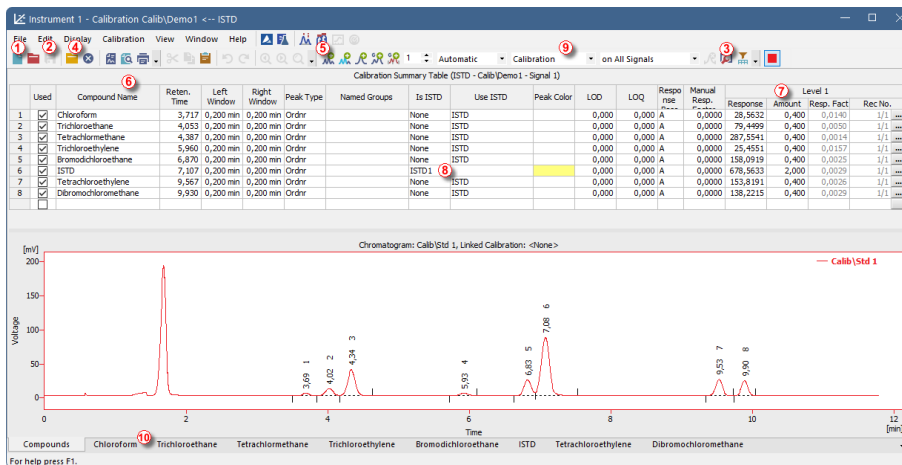

Fig. 16: The Calibration window - loaded standard
- Use the **Open Standard** icon (yellow) (4) to open the STD 1.PRM data file. The lower part of the **Calibration** window now displays the chromatogram of the standard.
- Use the **Add All** icon (blue) (5) to add all identified peaks to the Calibration Summary Table. The Table appears in the **Calibration** window, ready to be completed as shown on **Fig. 16** on pg. 28.
- As demonstrated in the Calibration Summary Table and the Chromatogram, individual peaks are now identified according to their retention times only. To label the peaks, click and edit the fields in the **Compound Name** column (6) to the names shown on **Fig. 16** on pg. 28.